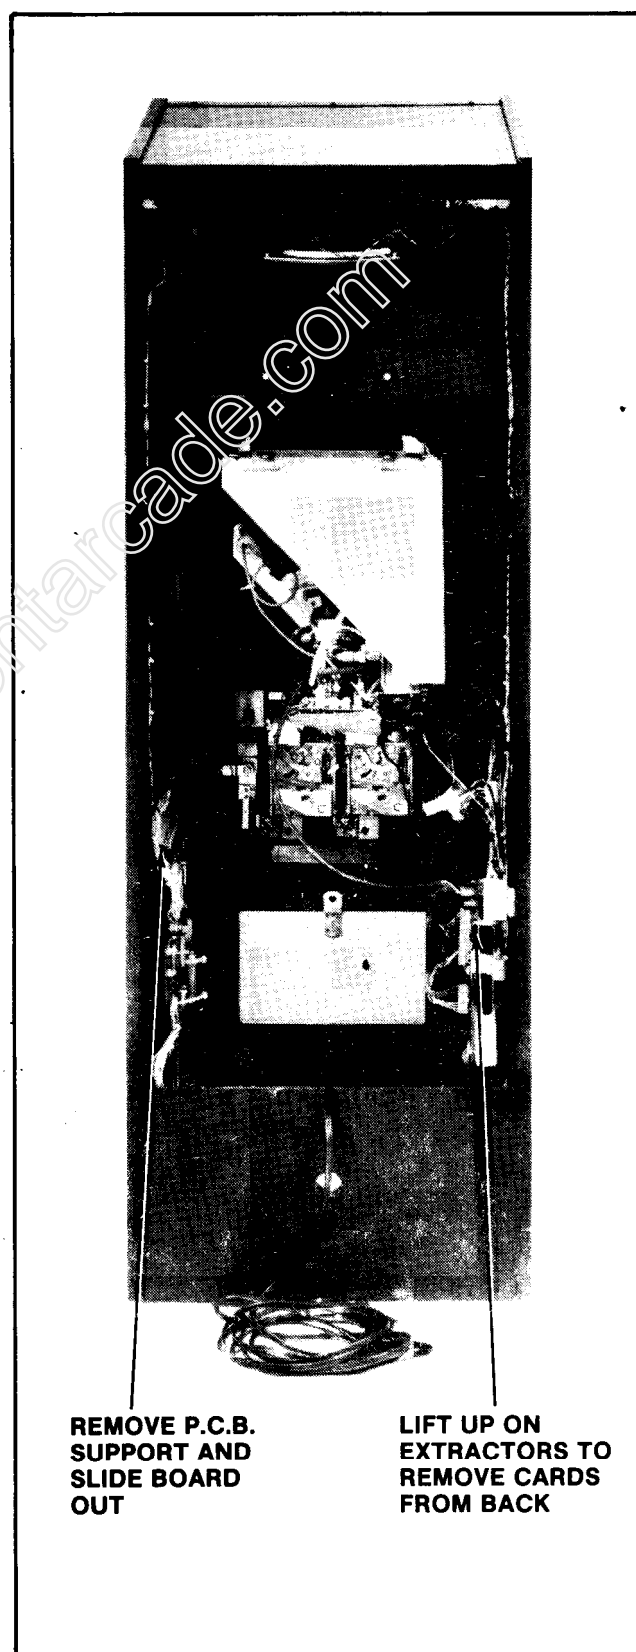

Figure 2-22 Removing P.C.B.'s - Mini
### 2.8.2 MINI MODEL: (See Figure 2-22)
- ☐ Disconnect the power supply board from its cabling, remove the P.C.B. supports indicated in Figure 2-22 and slide it out the back of the cabinet.